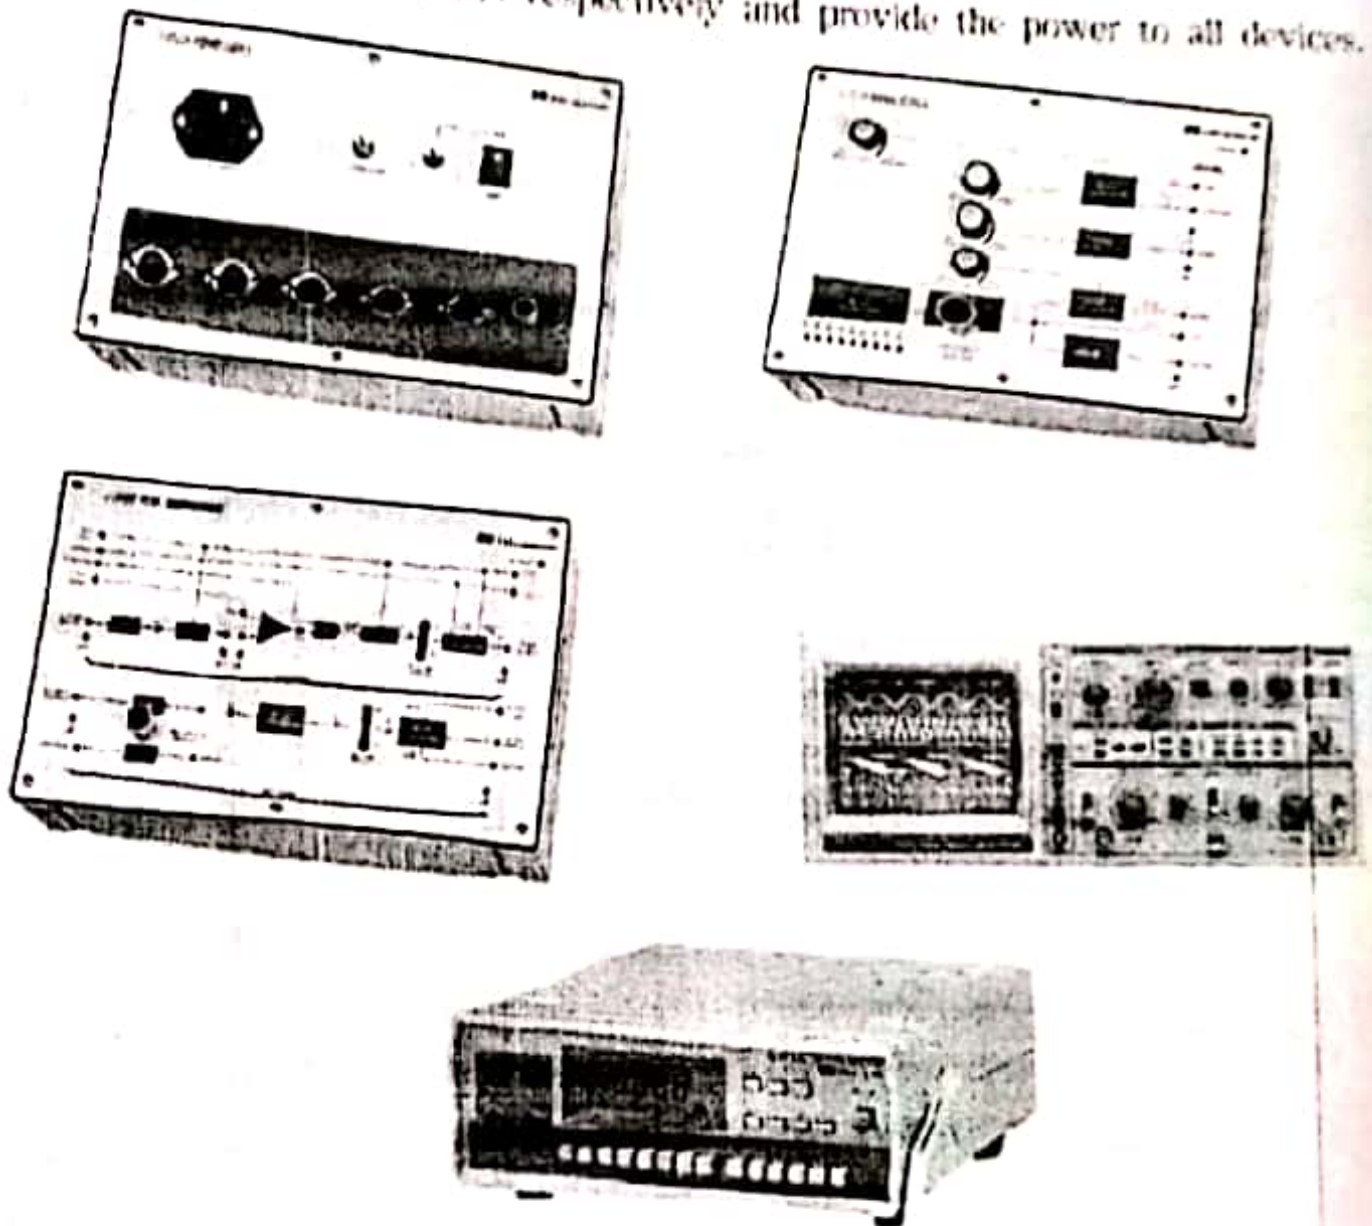

Figure 5-6. Test module & measuring equipments for experiment
(1) Prepare module and measuring equipment as following figure 5-6. Set all ADJ control terminals to MIN respectively and provide the power to all devices.